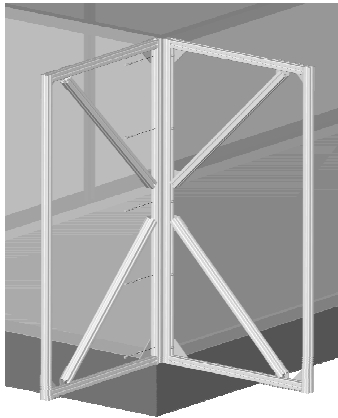

Figure 4-A
4. Mount the mating support assembly at the corner following the same procedure (see Figure 4-A). Bolts and brackets must face away from the corner. Each corner uses one "Left" and one "Right" assembly (see section "Finished Support Assembly Configurations" for details).